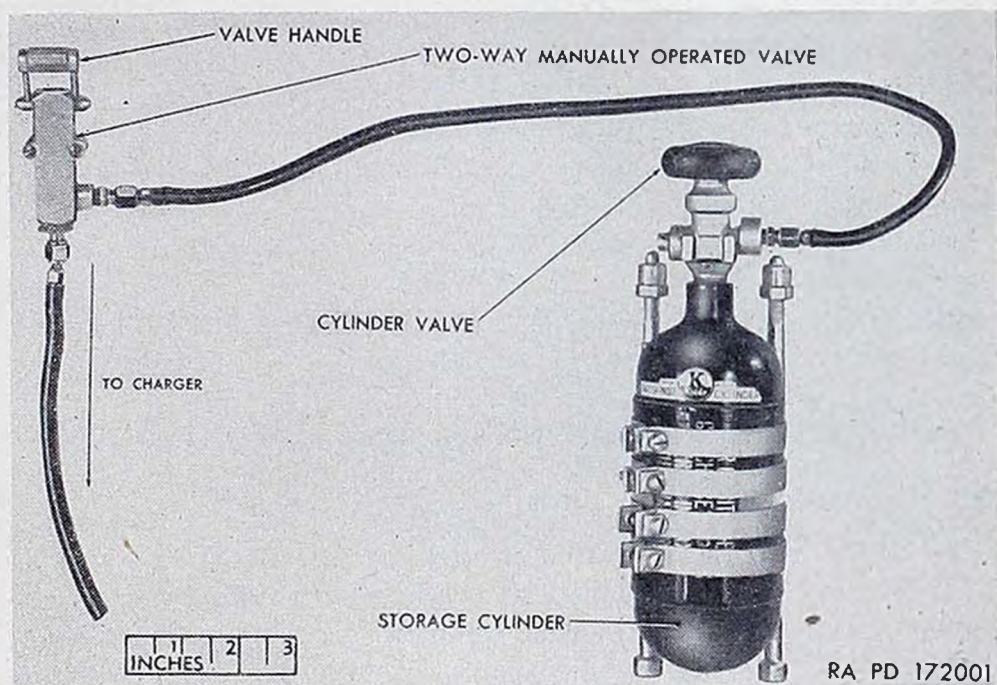

Figure 42. Controls for 20-mm pneumatic charger M4.
- (1) Open the cylinder valve of the storage cylinder (fig. 42). The cylinder contains gas or air under pressure.
- (2) Move the valve handle of the two-way, manually operated valve (fig. 42) and release it after a 1-second delay or close the valve switch of the solenoid-controlled valve and break the circuit by means of another switch.